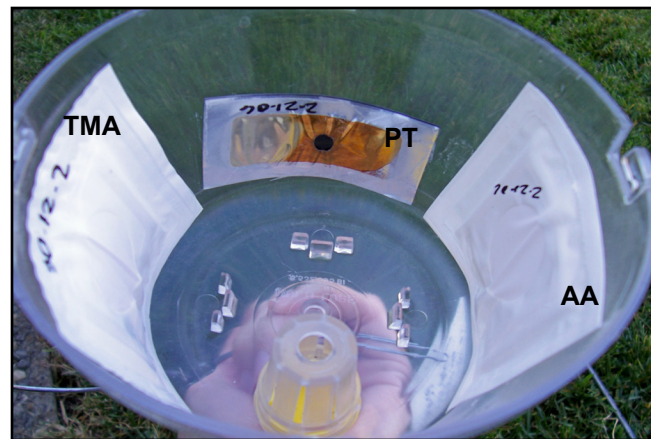

FIGURE 5.
Looking down on the trap from the top, place the putrescine (PT) first. Moving clockwise, attach the ammonium acetate (AA) and then the trimethylamine (TMA) patches on opposite sides of the inside surface of the top of the trap (Fig. 5). Immediately place the protective covers in a plastic bag for disposal at headquarters.